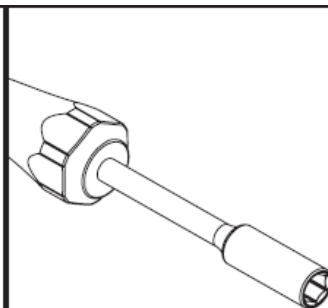
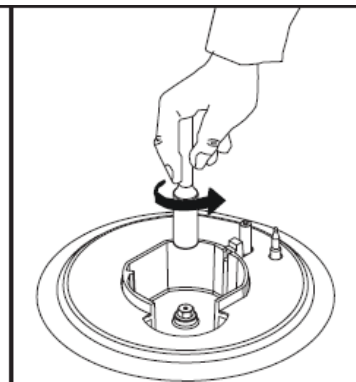

Figure 2
Figure 3
2. With the help of a screwdriver (7 mm) with the tip as shown in figure 2, remove the injector by turning it (See figure 3).